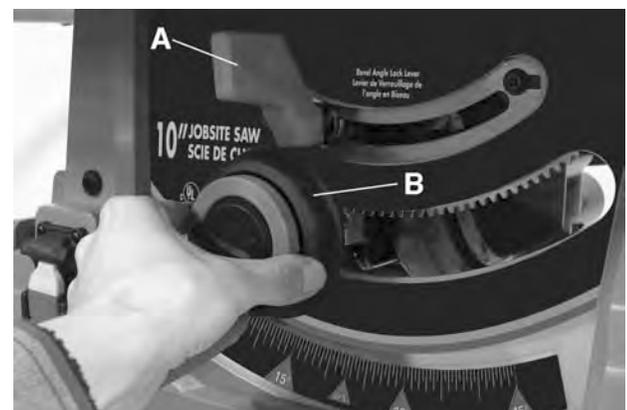

FIGURE 20
1. Unlock the bevel locking lever (A) Fig.20 by pulling the lever all the way to the right.
2. Push in and then turn the exterior handwheel (B) Fig.20 to adjust the blade bevel angle, turning it counterclockwise increases the bevel angle of the blade.
4. Once the desired bevel angle is achieved, lock the bevel locking lever (A) Fig.20 by pulling the lever all the way to the left.
2. Unlock the bevel locking lever (A) Fig.20 by pulling the lever all the way to the right. Push in and then turn the exterior handwheel (B) Fig.20 until the blade is set at a perfect 90°. Lock the bevel locking lever.